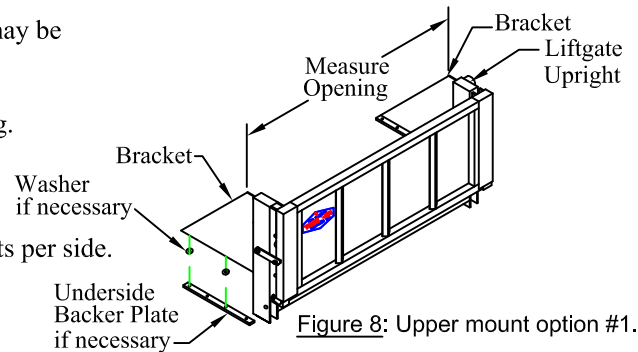

Figure 8: Upper mount option #1.
- Position** the mounting brackets on the gate uprights (Figure 8):
- Bolt** the liftgate to the floor of the service body with at least (2) 3/8-16 bolts per side.